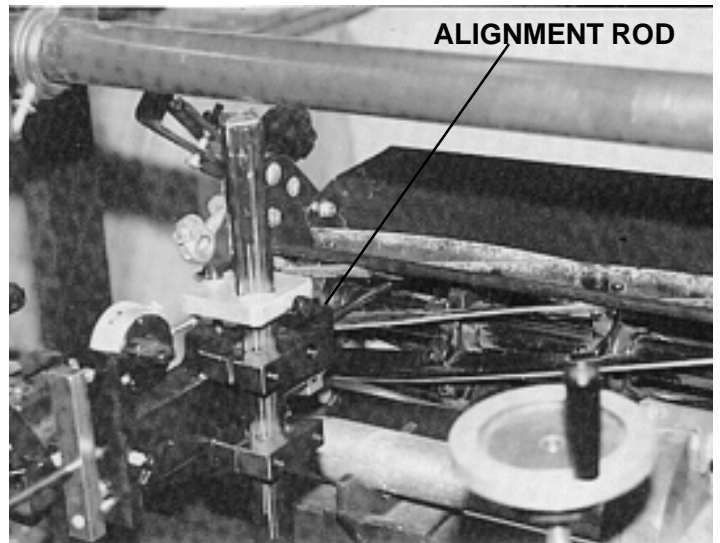

Fig. 12
- D. Pull rod back and lock knob C (See Fig. 8). Move the alignment gage to the left end of the reel (see Fig. 12). Move the setup gauge to the other side of reel, same distance from end. Loosen Knob C and extend alignment rod over reel shaft.